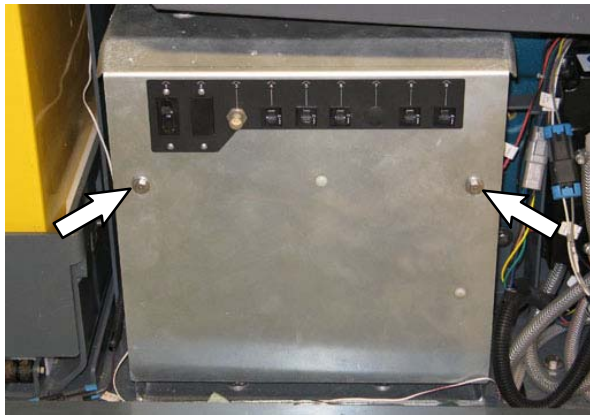
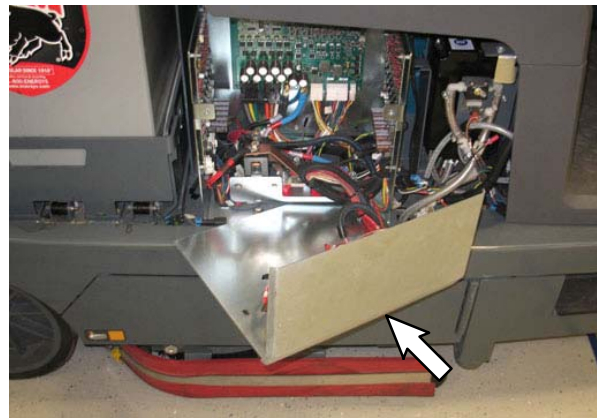

FIG. 1
FIG. 2
9. Remove the SEMS M6 hex screws securing the electrical enclosure cover to the electrical enclosure. Set the SEMS M6 hex screws aside. (Fig. 1).
10. Carefully remove the electrical enclosure cover from the electrical enclosure and position as shown. **Do Not** break or damage wires / wire connections when removing the electrical enclosure cover from the electrical enclosure. (Fig. 1 / Fig. 2)